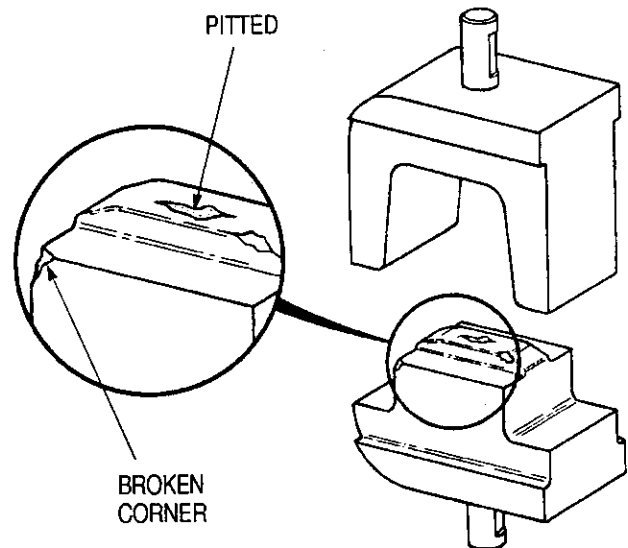

Figure 5
2. Inspect the crimp area for flattened, chipped, cracked, worn, or broken areas. If damage is evident, the dies must be replaced or repaired. Examples of possible damaged die closure surfaces are shown in Figure 5. If desired, you may return them to AMP for evaluation and repair (see Section 6, REPAIR).